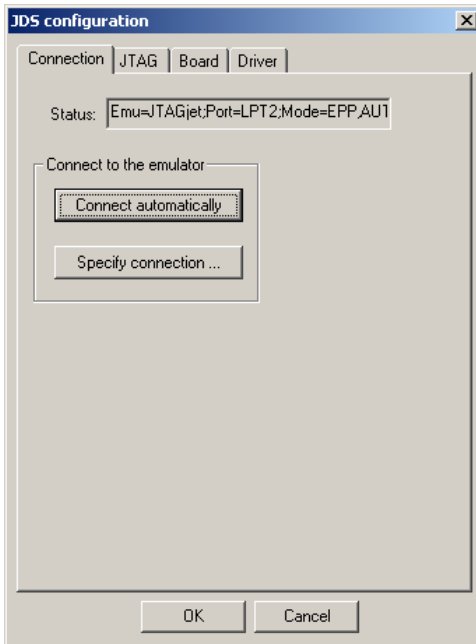

FIGURE 6 Configuring the emulator: the Connection tab.
1. In the JDS Configuration dialog that appears, make sure that the Connection tab is selected (Figure 6).